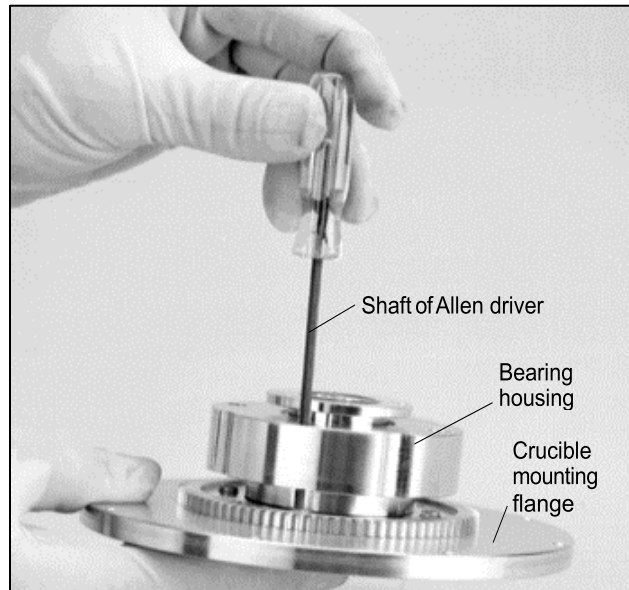

Figure 5-18. Allen Driver Inserted Through Hole in Bearing Housing
Step 4: Insert the Allen driver through these holes and tighten these screws, as shown in Figure 5-18.